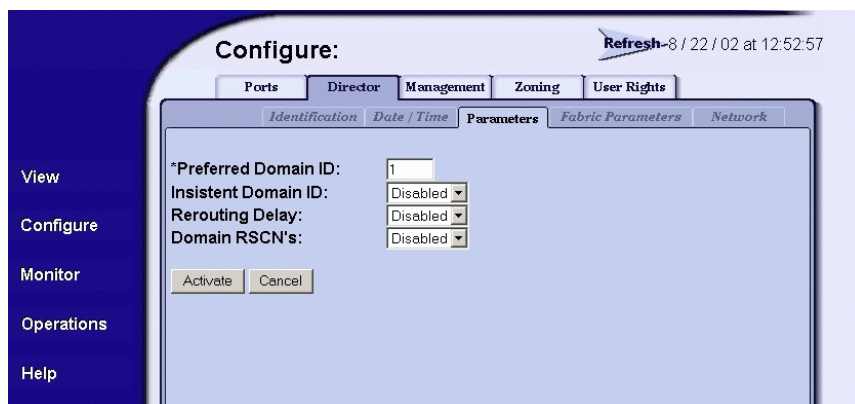

Figure 2-69 Configure Panel (Director Page with Parameters Tab)
3. At the *Configure* panel, click the *Director* tab, then select *Parameters*. The *Director* page displays with *Parameters* selected (Figure 2-69).